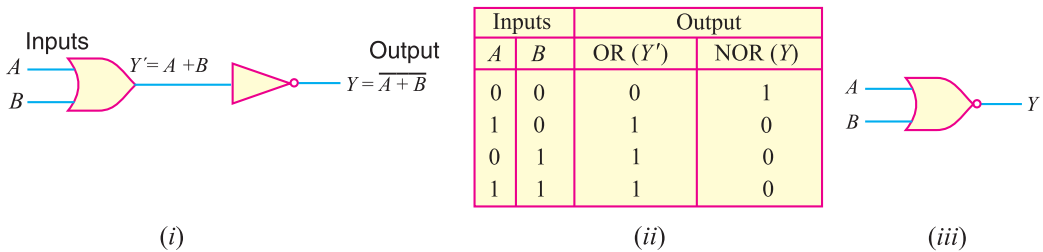

Fig. 26.12
(ii) NOR gate. It is a combination of OR gate and NOT gate. In other words, output of OR gate is connected to the input of a NOT gate as shown in Fig. 26.12 (i). Note that output of OR gate is inverted to form NOR gate. This is illustrated in the truth table for NOR gate. It is clear that truth table for NOR gate is developed by *inverting the outputs* of the OR gate.
This Boolean expression can be read as $Y = \text{not } A \text{ or } B$. To perform the Boolean algebra operation, first the inputs must be ORed and then the inversion is performed. *Note that output from a NOR gate is high (1) only when all the inputs are low (0). If any of the inputs is high (1), the output is low (0).* Fig. 26.12 (iii) shows the logic symbol for a NOR gate. The bubble (small circle) at the Y output indicates inversion.